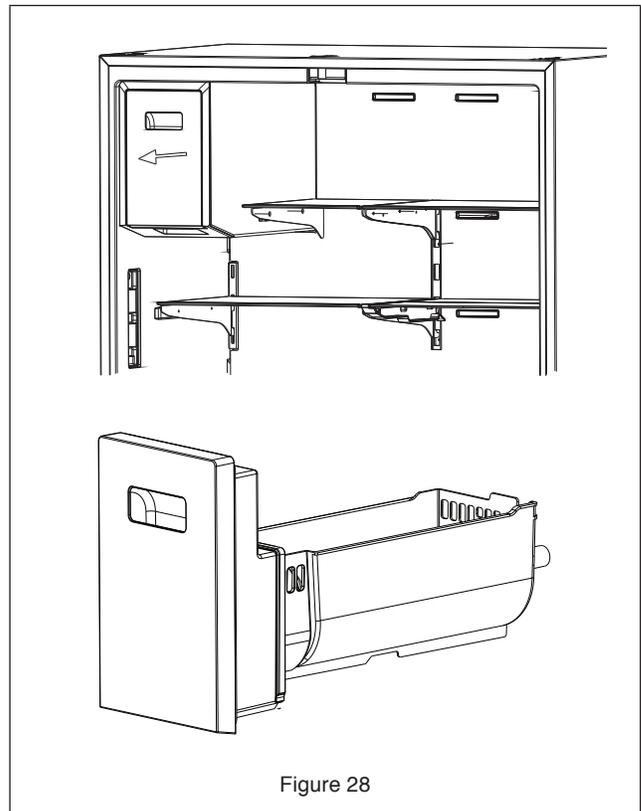

Figure 28
- Hold the ice storage box, press downward, and pull horizontally. When you need to use a lot of ice, or need to clean the ice storage box, you can remove the ice storage box. Be sure to replace the ice storage box before ice maker is turned on. See Figure 28.